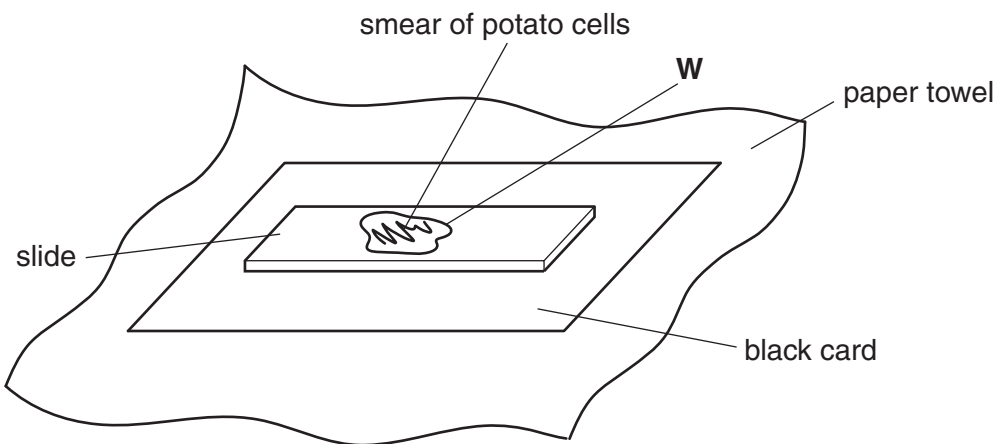

Fig. 2.2
1. Put one **clean and dry** microscope slide on a piece of black card with a paper towel underneath as shown in Fig. 2.2.